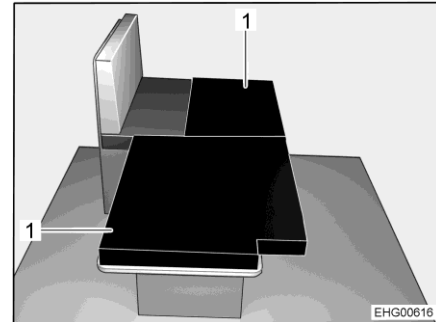

Fig. 34 After conversion
- Place the two additional cushions (Fig. 34,1) on the lowered table as shown in the image.